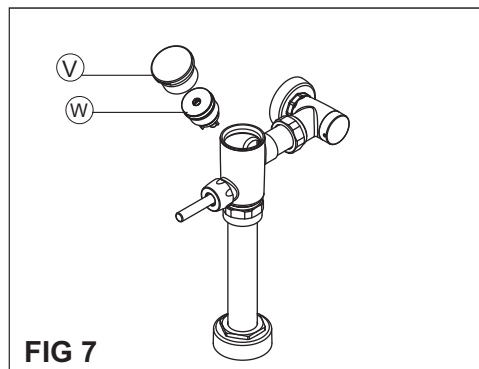

FIG 7
NOTE: For new installation it is recommended the following steps: shut off stop valve and remove flushometer cover (V), see fig 7. Lift out the piston valve (W). Install flushometer cover and open stop valve to flush line of any debris and sediment. After completion, shut off stop valve, remove flushometer cover and reinstall piston valve. Reinstall flushometer cover wrench tight.